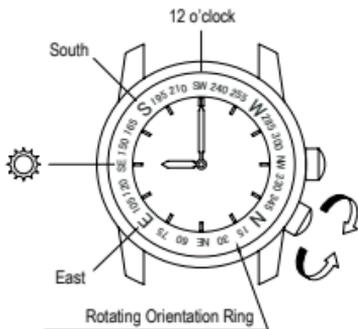

FIG. 1
- (1) In the morning, with twelve o'clock as the origin, "the position midway between twelve o'clock and the hour hand counterclockwise from twelve o'clock" will point toward south. Refer to FIG. 1.